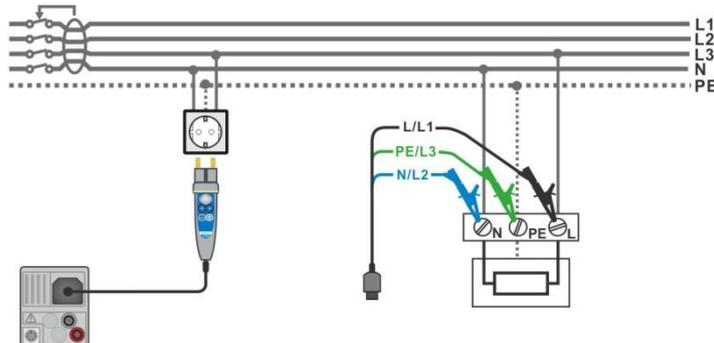

Figure 7.98: AUTO TN (RCD) measurement
- › Connect test leads or Plug commander to the object under test, see **Figure 7.98**.